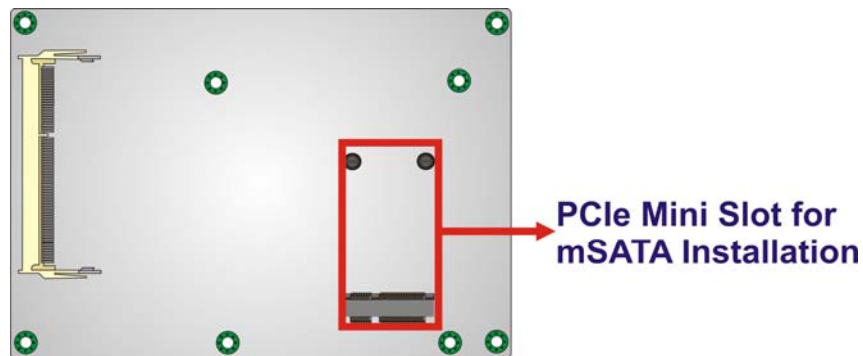

Figure 3-9: PCIe Mini Slot Location
Step 5: Locate the PCIe Mini slot on the solder side of the motherboard (**Figure 3-9**).